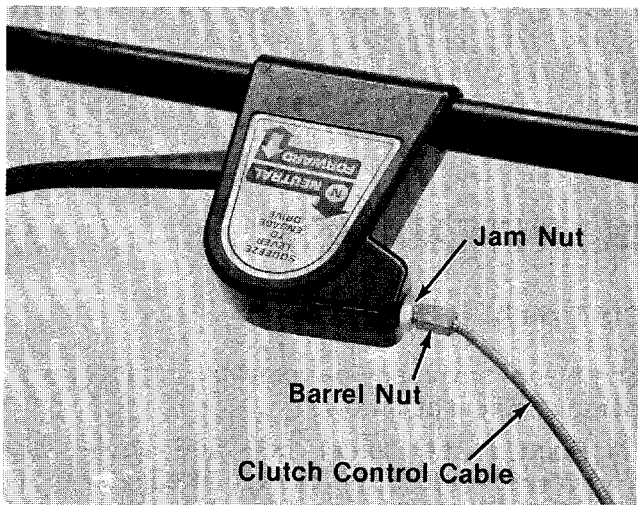

FIGURE 21.
1. To increase belt tension, loosen jam nut and back off two or three threads. Thread the barrel nut on end of control cable outward two or three threads. Retighten jam nut. See figure 21.
2. To decrease belt tension, loosen jam nut and back off two or three threads. Thread the barrel nut on end of control cable inward two or three threads. Retighten jam nut. See figure 21.